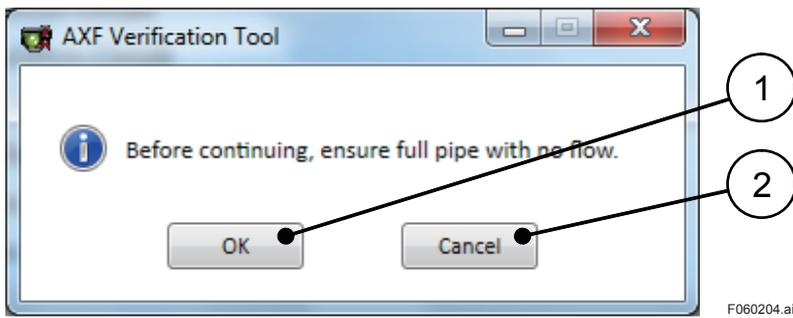

Figure 6.2.4 “No Flow Confirmation” Dialog
- 2) Select “No Flow (1)” and click “Start Verification (2)”.
- 3) Before running “Circuit” check and “Device Status” check, **Figure 6.2.4** is displayed.